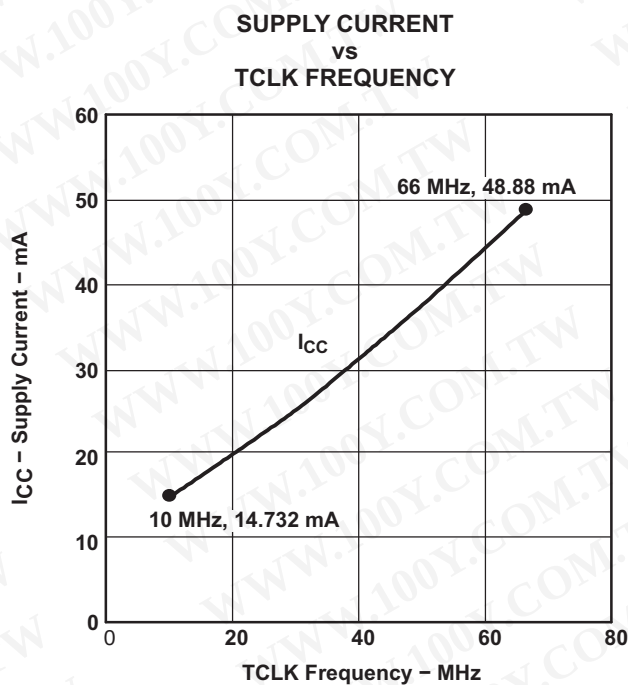

Figure 4.
- Changed Figure 4 Supply Current vs TCLK Frequency 12